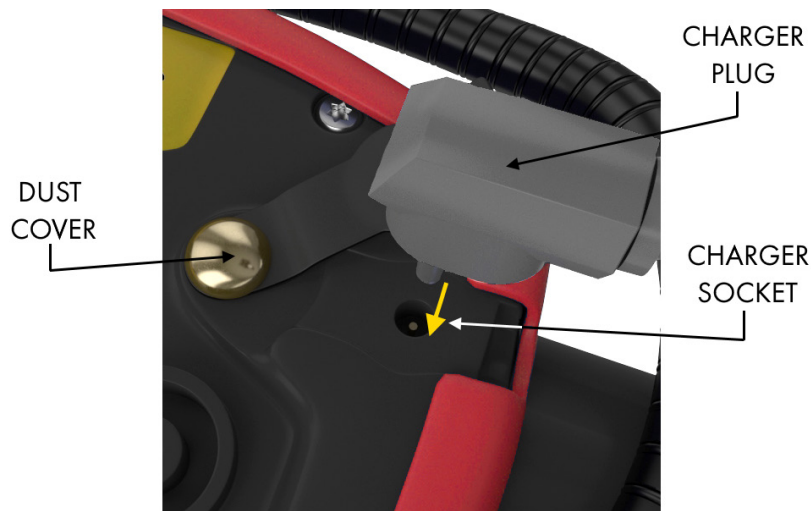

Figure 37: Connect Charger to Monitor
1. Lift dust cover from charger socket on rear of monitor. Connect charger plug, as shown in Figure 37: Connect Charger to Monitor.